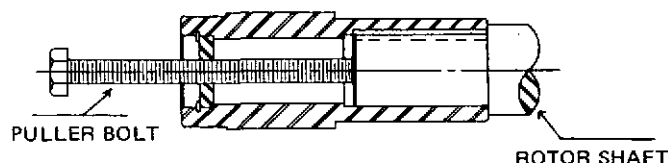

Figure 2. Installation and removal of bearings.
4. Remove the exciter armature (rotor) by first disconnecting the field leads from the rotating rectifier assembly. Then remove the exciter hold-on bolt. The exciter armature is interference fit and should slip from the shaft by pulling while tapping it lightly with a soft-faced mallet. If not, use a puller bolt as shown in Figure 2. A 5/8-11 bolt is used as a puller bolt for 680-frame units, and a 1/2-13 bolt is used as a puller bolt on all other ratings.
4. Remove the exciter armature (rotor) by first disconnecting the field leads from the rotating rectifier assembly. Then remove the exciter hold-on bolt. The exciter armature is interference fit and should slip from the shaft by pulling while tapping it lightly with a soft-faced mallet. If not, use a puller bolt as shown in Figure 2. A 5/8-11 bolt is used as a puller bolt for 680 frame units and a 1/2-13 bolt is used as a puller bolt on all other ratings.